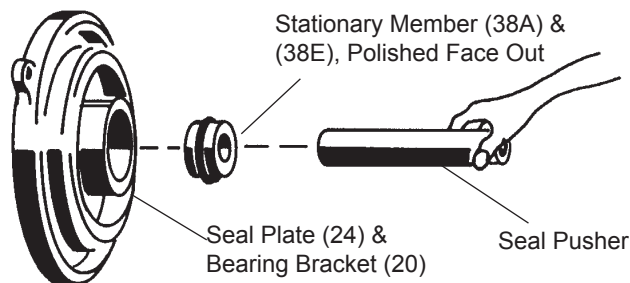

FIGURE 9
Seal - Clean and oil seal cavities in bearing bracket (20) and seal plate (24). Lightly oil (**DO NOT use grease**) outer surface of inboard stationary member (38E) and outboard stationary member (38A). Press inboard stationary member (38E) firmly into bearing bracket (20) and outboard stationary (38A) into seal plate (24), using a seal pusher nothing but the seal pusher is to come in contact with seal face (see Figure 9).